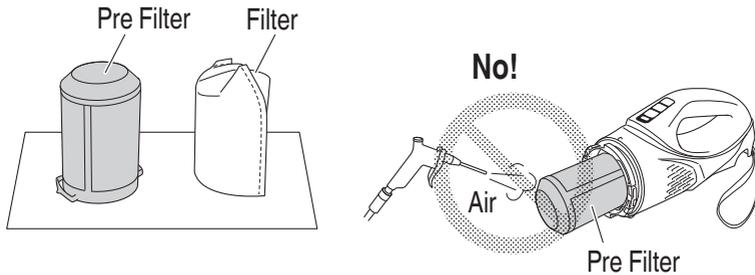

Fig. 20
- Do not use an air gun or similar tool to clean the pre filter, filter or the appliance itself. (Fig. 20)